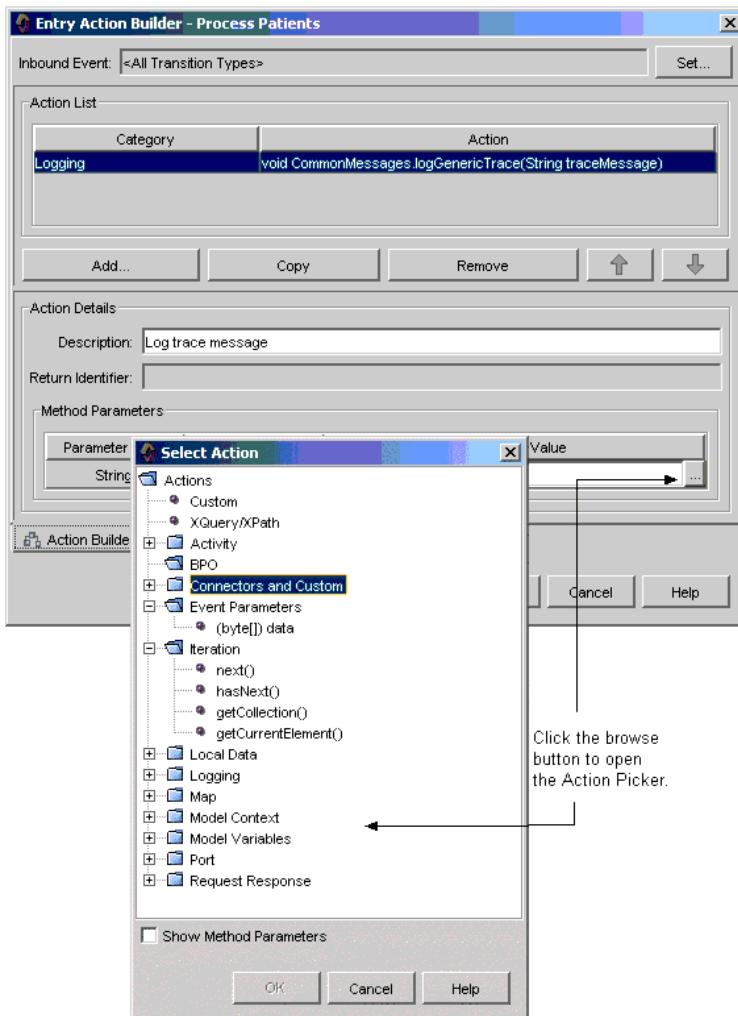

Figure 14-3 Insert Code Using the Action Picker
- 3.** Enter values for each of the parameters. You can type in the parameter value or use the Action Picker to locate and insert a method that will set the parameter value or a model variable for the parameter value (Figure 14-3). To use the Action Picker: